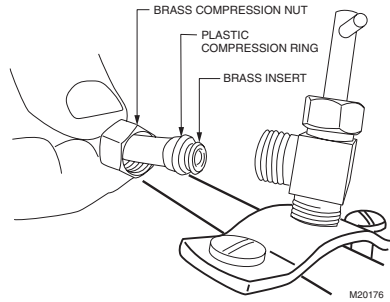

Fig. 7. Installing feed tubing.
- Use 1/4 in. (6 mm) OD tubing and connect saddle valve to float valve (see Fig. 7).